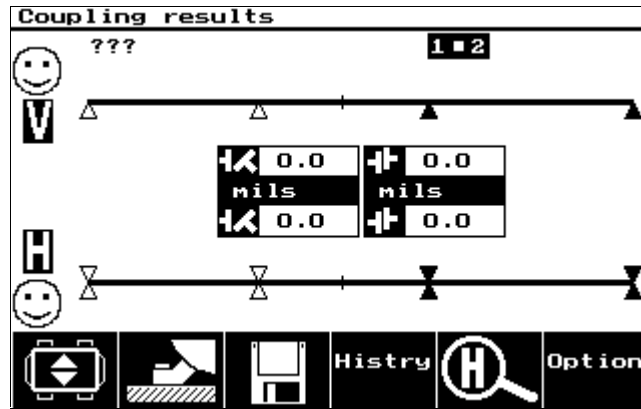

Figure 3
- 10) If not already displayed, press  to see alignment condition results at the coupling. These results will be zero. (See Figure 3.)